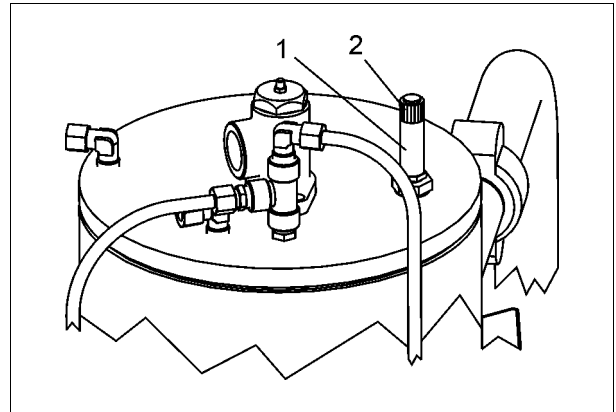

Fig. 19
Pressure relief valve operation (-1- Fig. 19) depends on the valve type and can be carried out by:
- Lightly turning the valve cap (-2- Fig. 19) (1-2 turns), and subsequently closing it again.